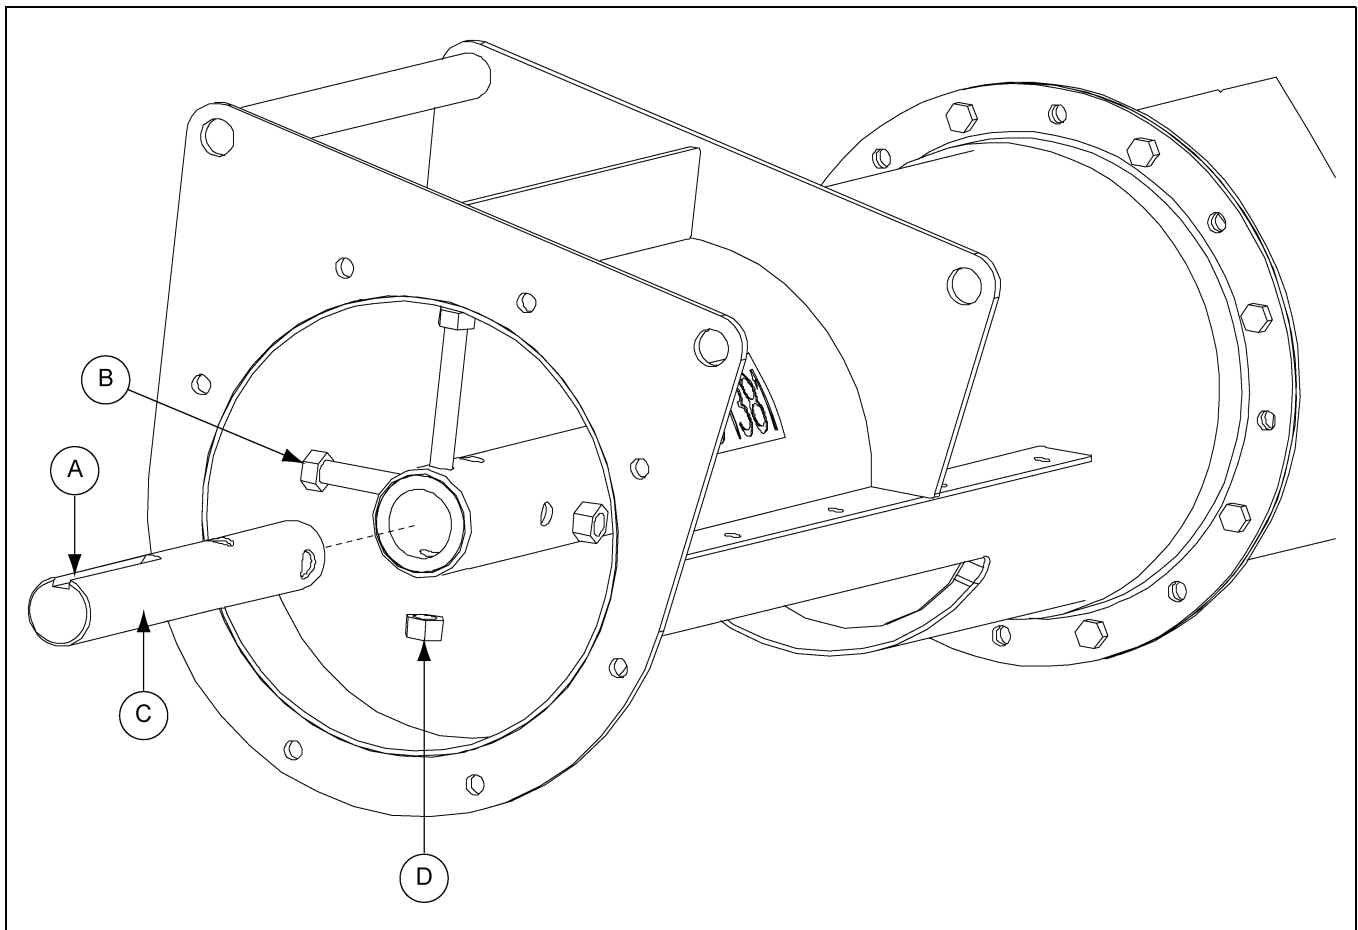

Figure 4K
1. Insert the drive shaft (C) into the opposite end of flight with keyway (A) facing outward. Align the holes in the shaft (C) and secure with grade 8 bolts (B) and stover nuts (D). (*See Chart* and *See Figure 4K.*)